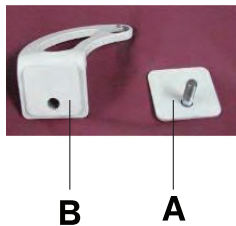
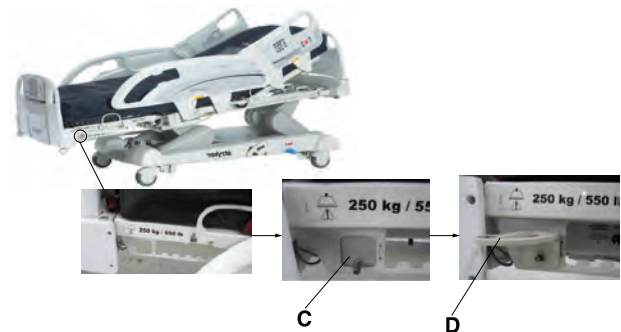

Figure 1-125: Bracket and bracket back
Figure 1-126: Installing the bracket back and bracket
1. Install the bracket back (A) and the bracket (B) (Figure 1-125 on page 1-109) onto the end of the foot end foley bag hook at the foot end of the product (C and D) (Figure 1-126 on page 1-109).